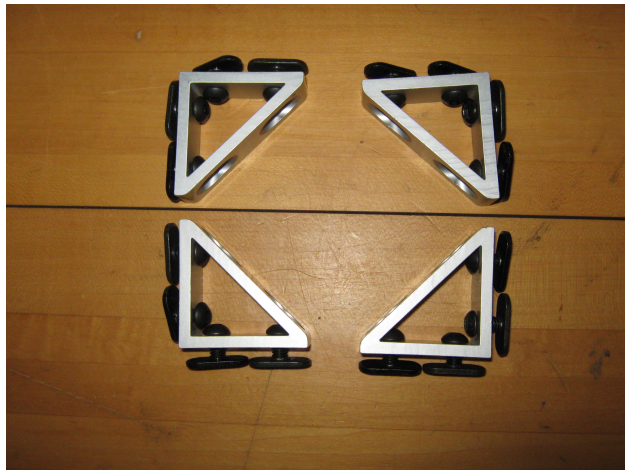

Figure 5: Angle brackets with sliders.
2. Put 1/4-20 bolts and sliders on all the angle brackets, as shown in Figure 5. Do not tighten them down.